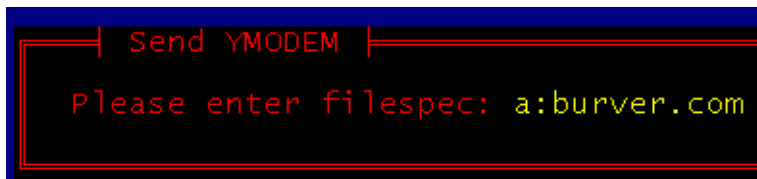

Figure 6-4 Using Procomm YMODEM Batch
5. Use the **yload** command to download. In order to do the file transfer, see Figure 6-4 "Using Procomm YMODEM Batch"
Please start YModem transmission now or press <ESC> // see Figure 6-4 "Using Procomm YMODEM Batch" on page 461